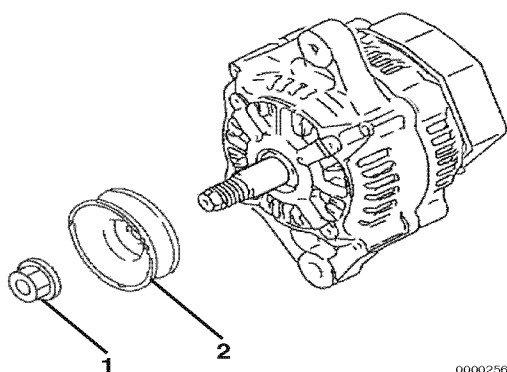

Figure 12-18
11. Reassemble the pulley (**Figure 12-18, (2)**) and nut (**Figure 12-18, (1)**) to the shaft of the rotor assembly. Tighten the nut.